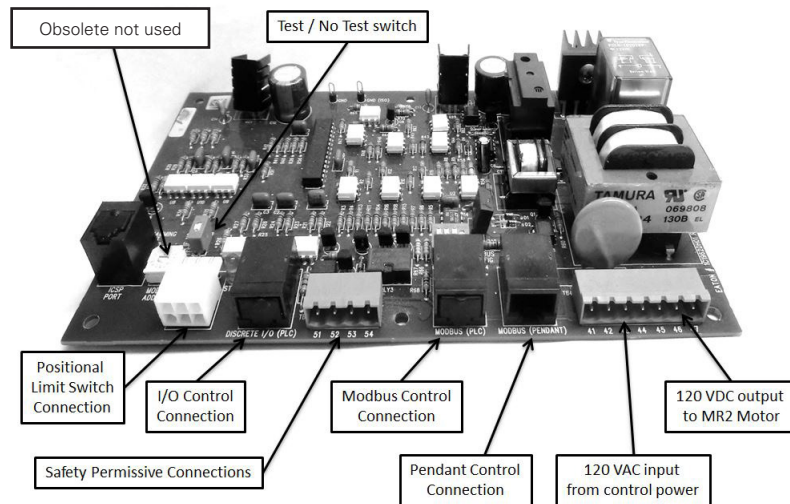

Figure 12. MR2 controller.
Step 1. - Using an Ethernet cable and a RJ485 to 8 pin terminal block adapter. Connect one end of the Ethernet cable to the discrete I/O control connection shown on Figure 12. Connect the other end of the Ethernet cable to the RJ485 connection shown on Figure 12.